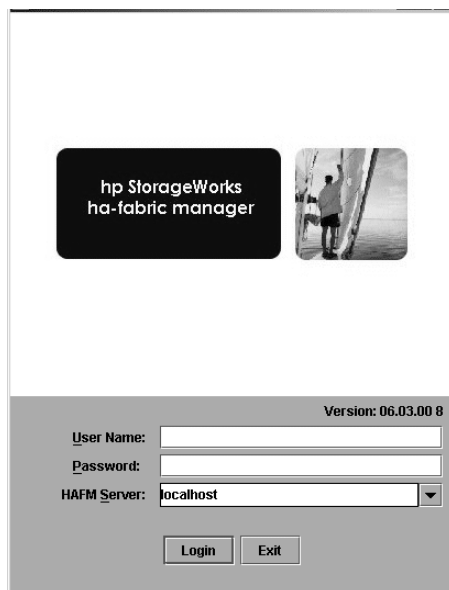

Figure 5: High Availability Fabric Manager Login dialog box
5. Type the Windows 2000 user name and password and click **OK**. The HAFM Server's Windows 2000 desktop opens and the **HAFM Manager Login** dialog box displays (Figure 5).
6. In the **HAFM Login** dialog box (Figure 5), enter your user name and password in the **User Name** and **Password** fields. User names and passwords are case-sensitive.
2. In the **HAFM Login** dialog box (Figure 5), enter your user name and password in the **User Name** and **Password** fields. User names and passwords are case-sensitive.